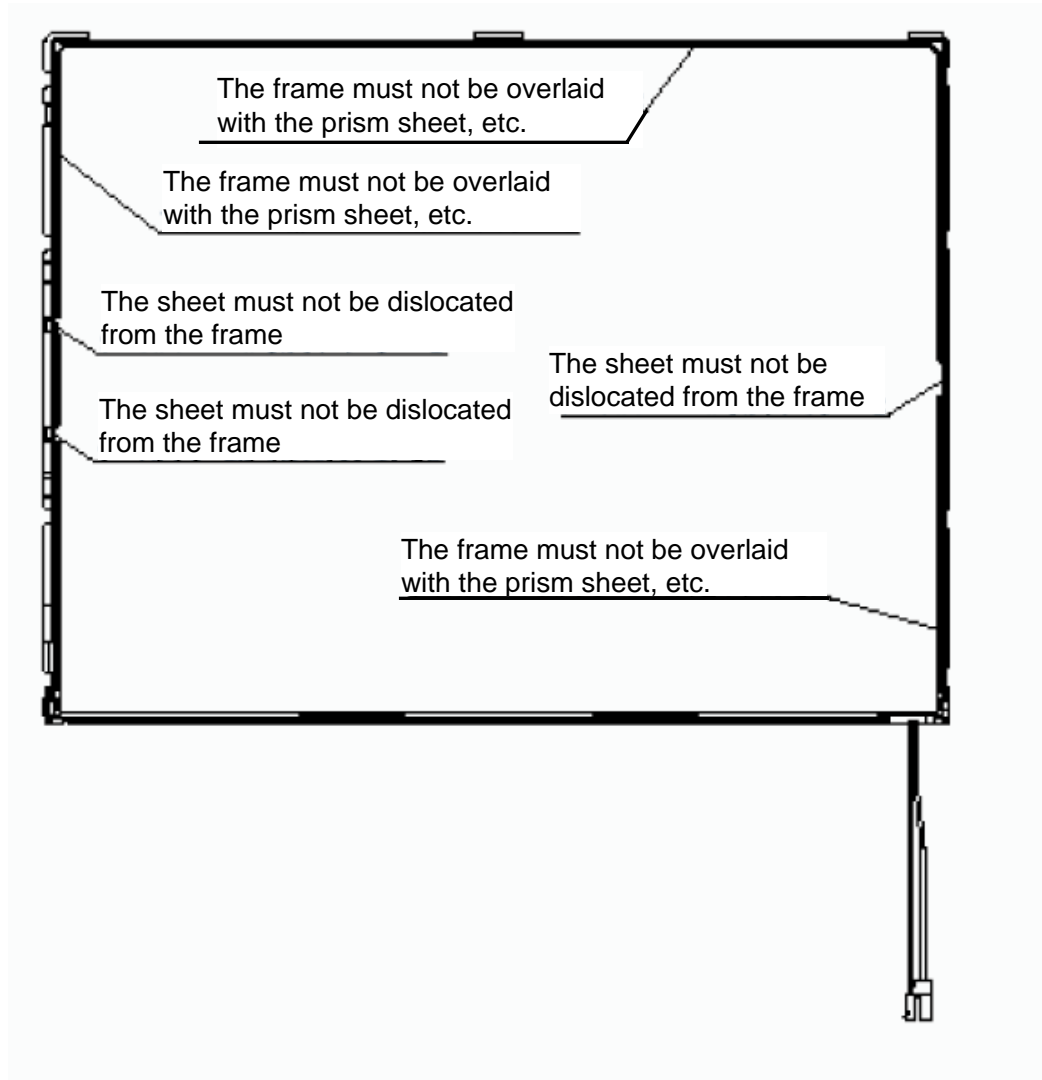

Figure 4-74 Replacing TMD fluorescent lamp (XGA) (6)
1. Check the following items according to Figure 4-74.